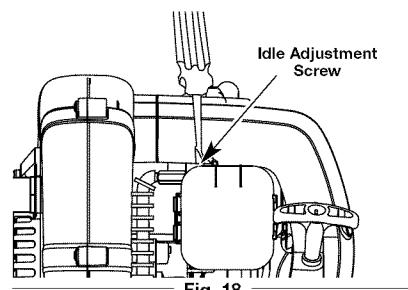

Fig. 18
The idle speed of the engine is adjustable. An idle adjustment screw is between the air filter cover and the engine cover (Fig. 18).
2. Move the cruise control to the SLOW position and let the engine idle. If the engine stops, insert a small Phillips screwdriver in between the air filter cover and the engine cover (Fig. 18). Turn the idle speed screw in, clockwise, 1/8 of a turn at a time (as needed) until the engine idles smoothly.